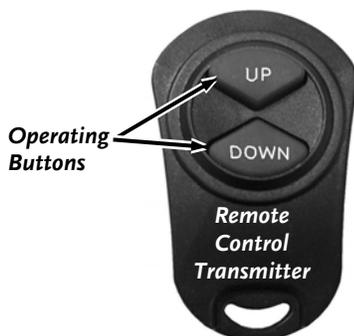

Figure 6
11. Press the Remote Control Transmitter Operating Buttons (**Figure 6**) to see if the Transmitter operates the Actuator properly. "UP" should retract the Actuator Arm and "DOWN" should extend the Actuator Arm.